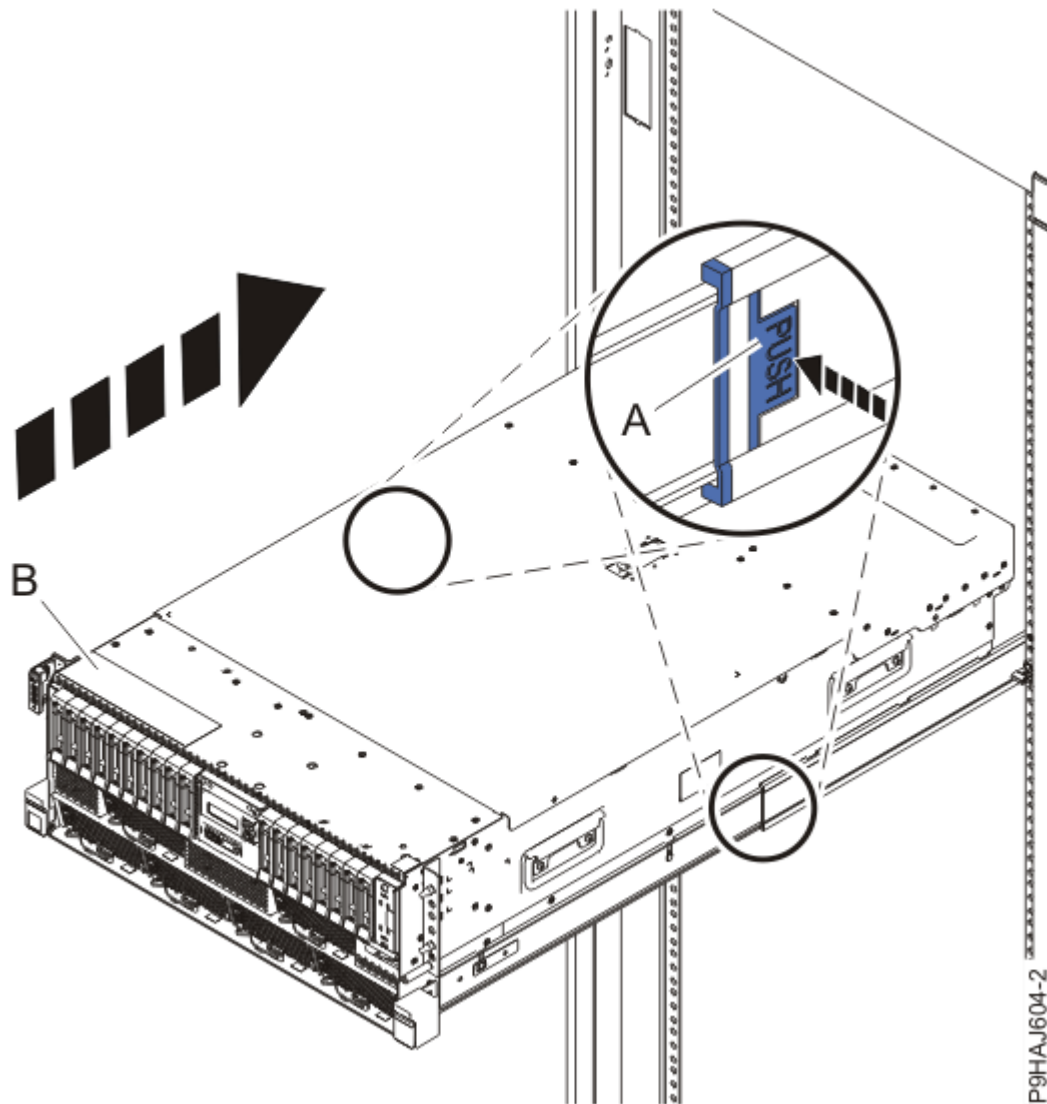

Figure 61. Placing the system into the operating position
2. For a rack-mounted system, unlock the blue rail safety latches **(A)** as shown in Figure 61 on page 67 by pushing them inward.